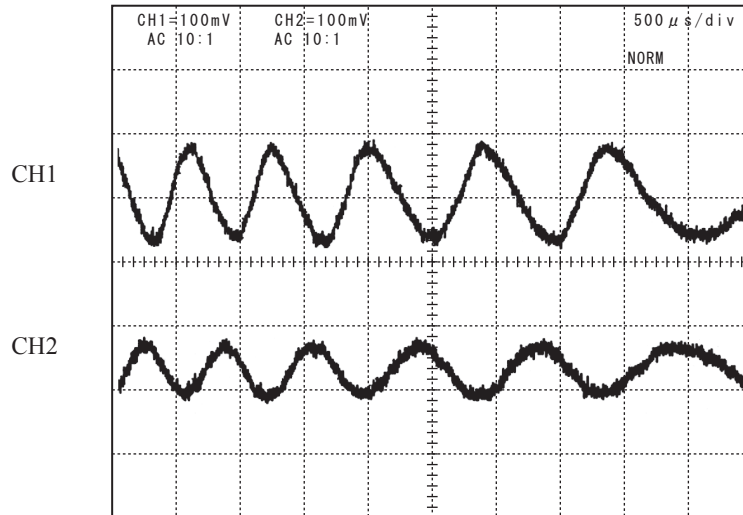

Fig.1
- As shown in Fig. 1, if the amplitude of only either CH1 or CH2 is small, one of the 2 screws (#119) may be loosened, so check for it. If this is not the case, the GMR sensor may malfunction so replace it and make a readjustment.